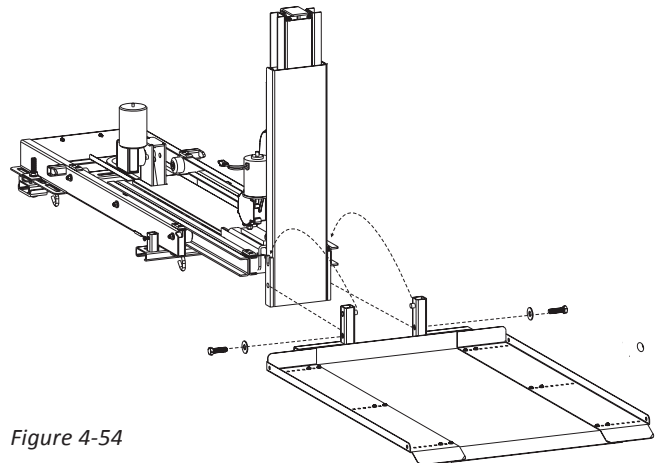

Figure 4-54
9. Install 1/2-13 x 1-3/4" Hex head Bolts and 1/2" flat washers into threaded holes as shown. Test full motion of lift into and out of the vehicle. Be sure lift is level and that no obstructions interfere with the travel of the platform. **See Figure 4-54.**